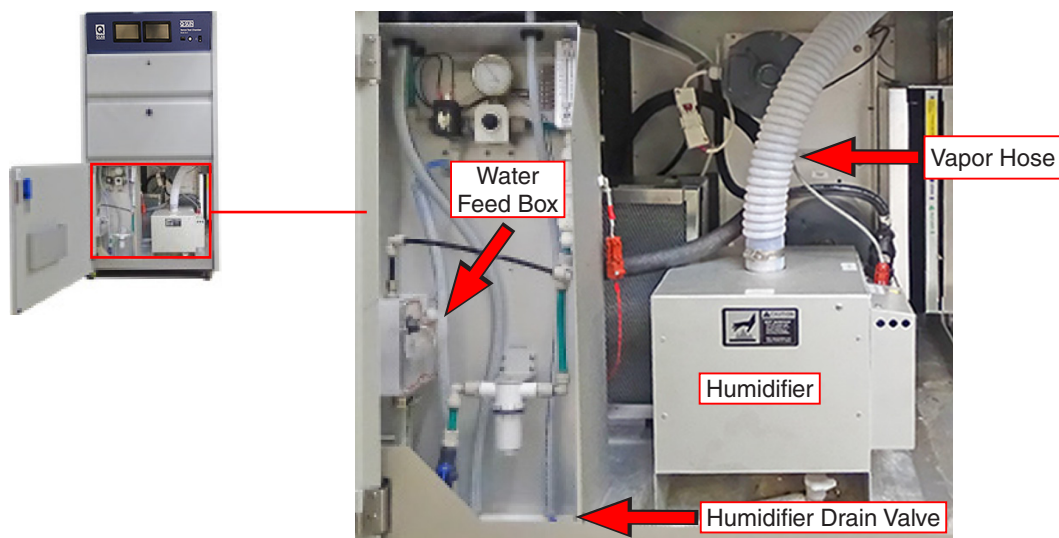
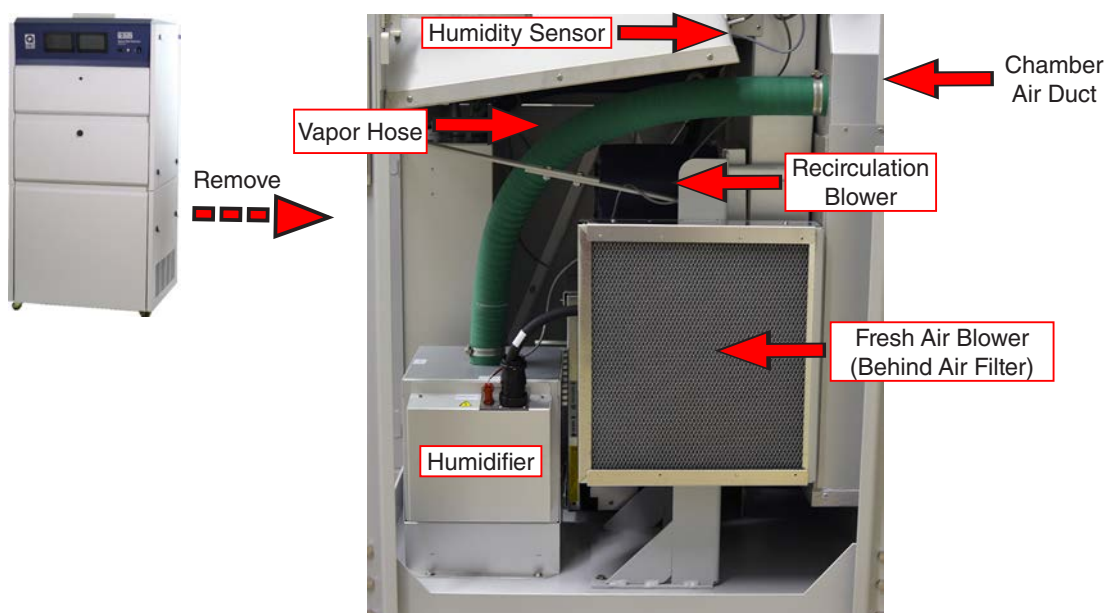

Figure 8a: Open lower front door to access humidity system components.
Figure 8b: Remove lower right side panel to access humidity system components.
- All Q-SUN Xe-3 models are equipped with a controlled relative humidity (RH) system.
- Humidity control system components can be accessed through the lower front door and the lower right side access panel (Figure 8a and Figure 8b).